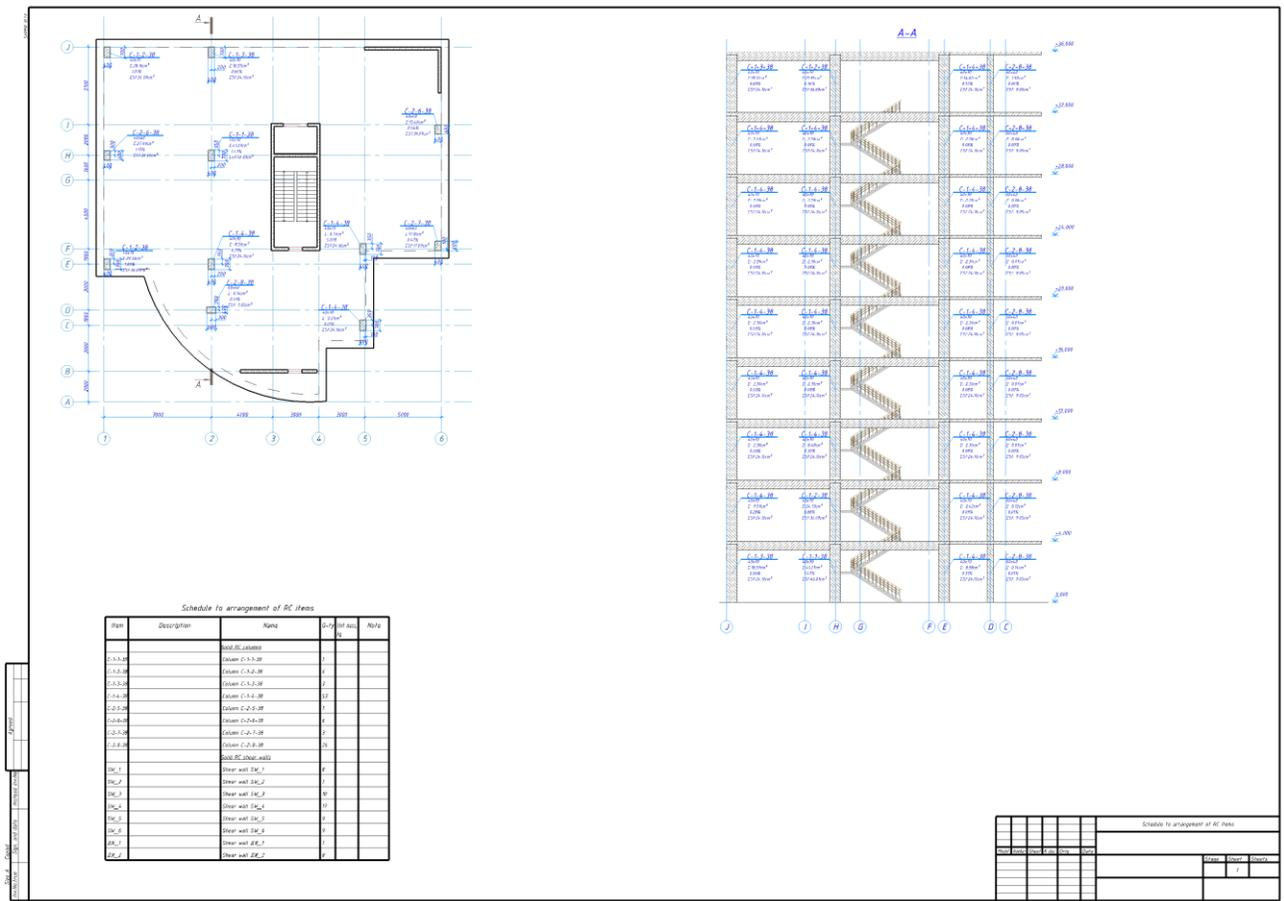

Figure 27.18. Sheet of drawing that contains plan and section view with tags as well as schedule
- ⇒ Close the **Schedule** dialog box (Fig. 27.16). The schedule will be displayed on the sheet of drawing together with plan and section view (see Fig.27.18).